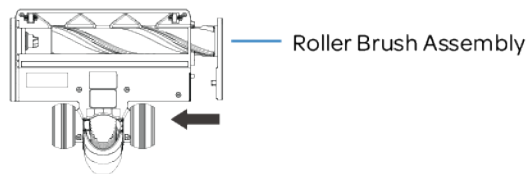

Figure 19
2. Remove the Electronic Floor Brush from the Aluminum Wand by pressing the blue Lock & Release Button. (See Figure 19, Page 8)
6. When the cleanup is complete, insert the end of the Roller Brush Assembly into the Electric Floor Brush. (Figure 19)